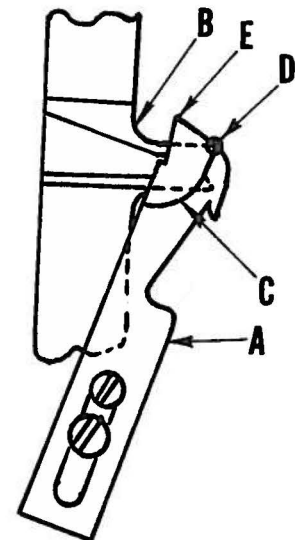
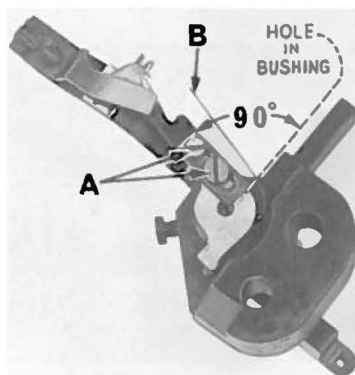
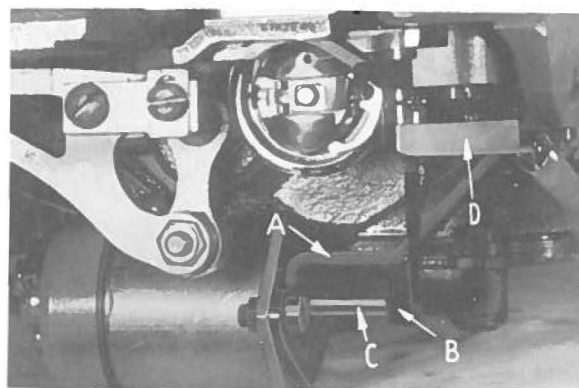
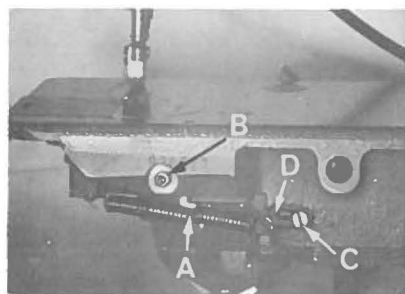

Fig. 32
Fig. 33
Fig. 34
Fig. 35
2. Position upper knife (D) parallel with the left side of the arm of the positioning finger. Check to see that the lower knife is parallel with the upper knife. If this is not so, loosen the finger set screw (E) and turn the eccentric bushing (F) until the knives are parallel. A good starting point would be to have the pin hole in the eccentric bushing (F) located approx. 90° to the right side of the arm of the positioning finger (Fig. 33).
The lower knife (A, Fig. 32) in its extreme left position should not extend beyond the left side of the arm of the positioning finger (B). As the lower knife moves to the right, the run out of the cutting edge (C) must coincide at a point of the positioning finger as indicated at point (D). To make these adjustments loosen screws (A, Fig. 33) and position knife.
4. Locate the cutting solenoid bracket (A, Fig. 34) as far forward as possible and parallel with the line of feed. With the cutting solenoid lever (B) contacting the cutting solenoid plunger (C), adjust the pivot release lever (D), so that there is a $1/32$ inch clearance to be maintained when knife return spring (A, Fig. 35) is in position.
5. Adjust the lower knife stop screw (B, Fig. 35) so when the lower knife is in its extreme right hand position, the left corner (E, Fig. 32) is in line with the left side of the needle slot in the bobbin case holder.
6. Be sure the spring retainer wire (B, Fig. 33) contacts the bobbin case holder when the lower knife is in its extreme right hand position. If the spring wire does not make contact, bend retainer wire to suit.
7. Knife return spring (A, Fig. 35) to have proper tension to cut threads. To adjust tension of knife return spring loosen screw (C) and move tension spring bracket (D) to the right to increase tension or to the left to decrease the tension.